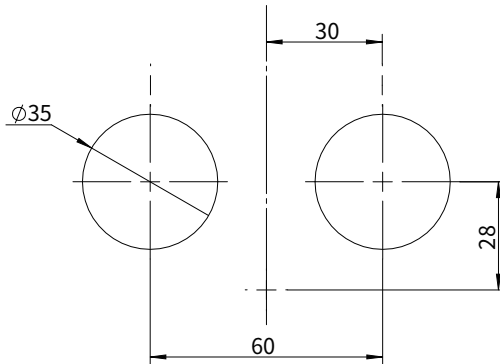

Figure 2-3
1. Drill holes on the hull through the fixing guide referring to the figure 2-3.